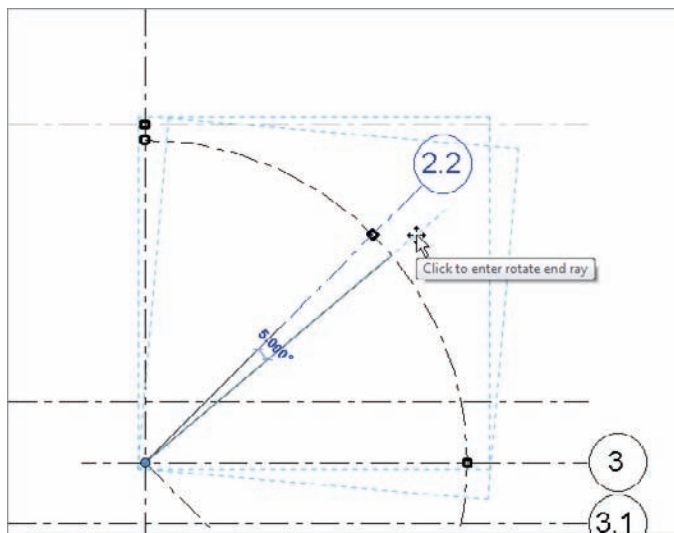

FIGURE 20.12 Moving grid 2.2
3. In the `NER-31_STRUCTURAL.rvt` model, open the Level 2 structural view; rename grid 2.1 to 2.2, and rotate it 5° as shown in Figure 20.12.